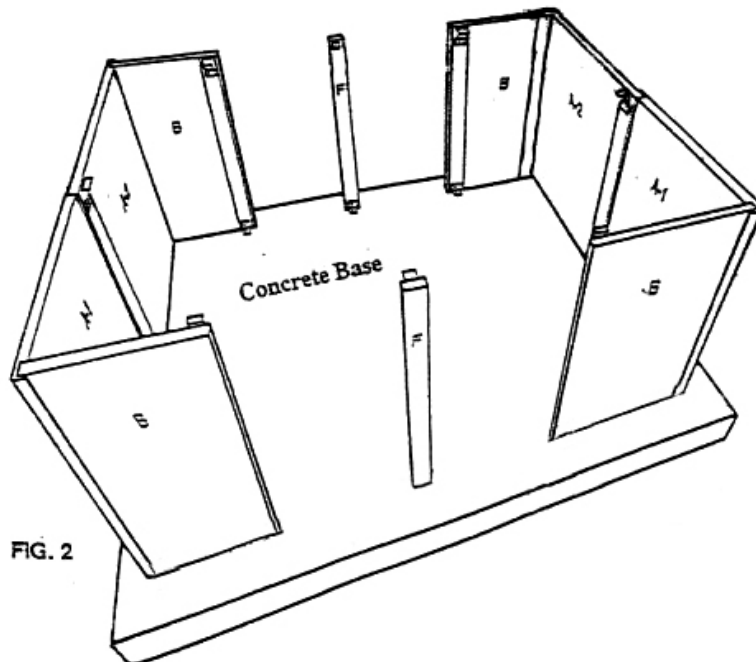

FIG. 2
2. Lay "A1 & A2" panels face down. Using five (5) hexhead screws fasten panels together thru holes provided on inside of panels. (Make sure panels are pulled close together before tightening screws). (For best results, insert a bead of silicone caulk into inside angle on "A1" panel.)
- A. Using four (4) hexhead screws for each section assemble each "A-B" (end and side) section thru holes provided. Set on marked concrete base (FIG 2).